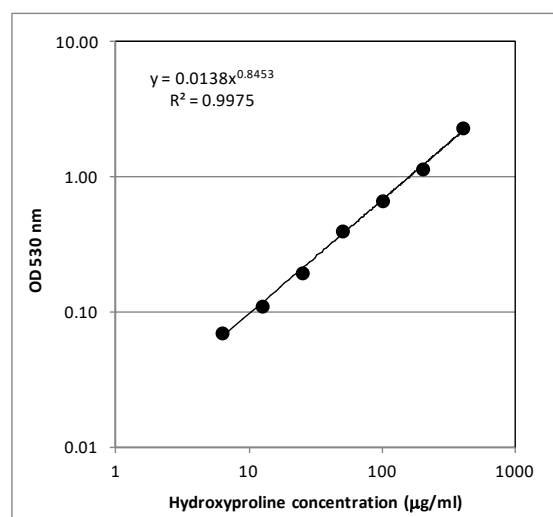

Figure 3 - A typical standard curve for hydroxyproline assay
1. Average the duplicate OD values for the standards, blanks (B), and test samples.
2. Subtract the blank (B) values from the averaged OD values of the standards and test samples.
3. Plot the OD values of the standards on the y-axis and the standard concentrations (µg/ml) on the x-axis. Using a log/log plot will linearize the data. Figure 3 shows a representative experiment where the standard range is from 6.25 to 400 µg/ml.